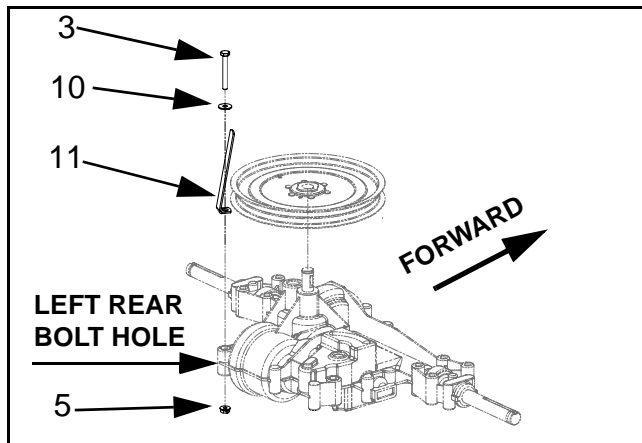

FIGURE 9
11. Locate the left rear bolt hole (no bolt in this boss) on the transaxle. See Figure 9.
12. Install Belt Guide, Item 11, using Hex Head Cap Screw, Item 3, Flat Washer, Item 10, and Flange Lock Nut, Item 5, as shown in Figure 9.